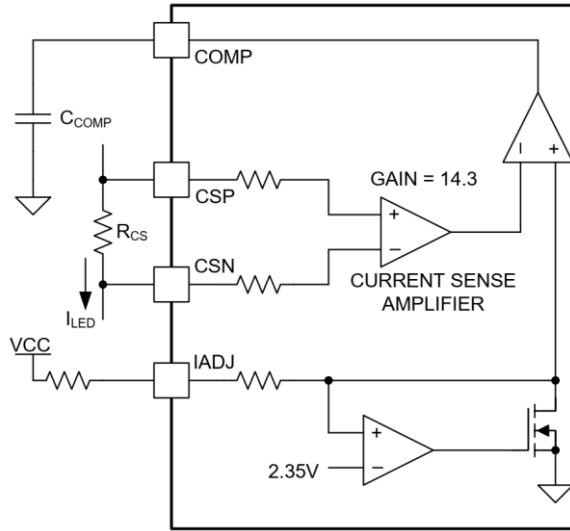
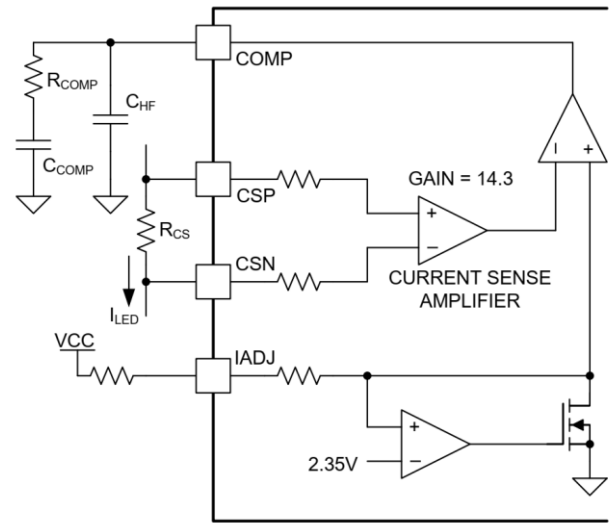

Figure 25. Integral Compensation
Figure 26. Proportional-Integral Compensation
The feedback transfer function includes the current sense resistor and the loop compensation of the transconductance amplifier. A compensation network at the output of the error amplifier is used to configure loop gain and phase characteristics. A simple capacitor, C_{COMP} , from COMP to GND (as shown in Figure 25) provides integral compensation and creates a pole at the origin. Alternatively, a network of R_{COMP} , C_{COMP} , and C_{HF} , shown in Figure 26, can be used to implement proportional and integral (PI) compensation and to create a pole at the origin, a low-frequency zero, and a high-frequency pole.